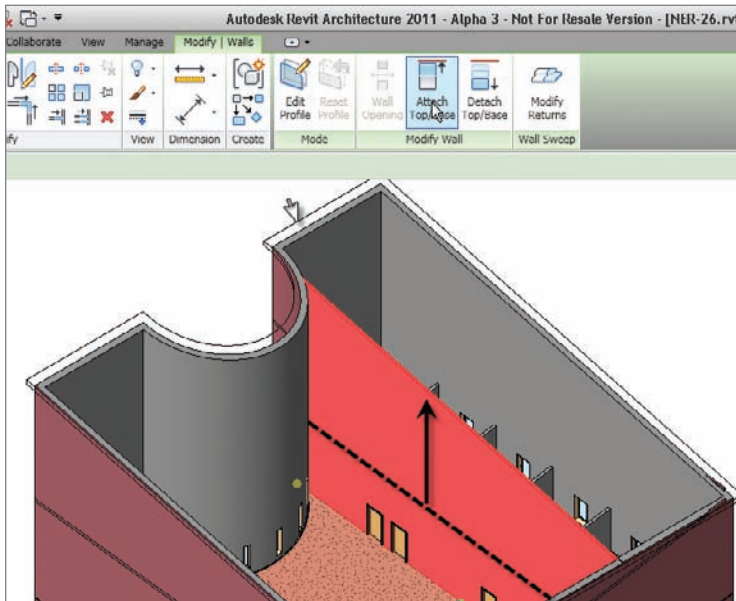

FIGURE 9.12 Attaching the wall to the roof
1. Select the wall shown in Figure 9.12.
Your wall should look like Figure 9.12.